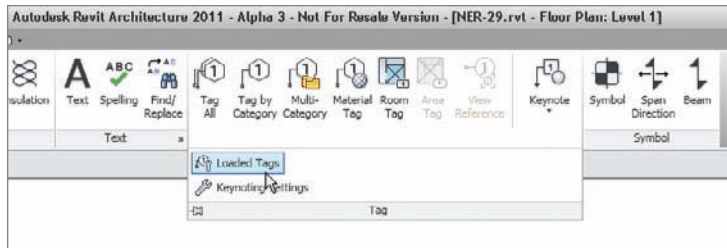

FIGURE 11.65 Click Loaded Tags.
9. At the bottom row of the Tag panel, you will see a pull-down arrow. Click the Loaded Tags button (see Figure 11.65).